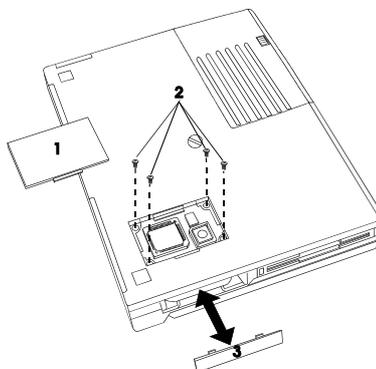

Figure 2-8. Hard Disk Disassembly/Reassembly
4. Remove the coprocessor protection cover (Figure 2-8 #1) by inserting a flat screwdriver into the groove along the side and levering it up.
5. Remove the four screws (Figure 2-8 #2) securing the hard disk to the chassis
6. Remove the HDD cover (Figure 2-8 #3) by levering it out.
2. Secure the hard disk with four bottom screws (Figure 2-8 #2).
3. Replace the coprocessor protection cover (Figure 2-8 #1).
4. Replace the HDD cover (Figure 2-8 #3).